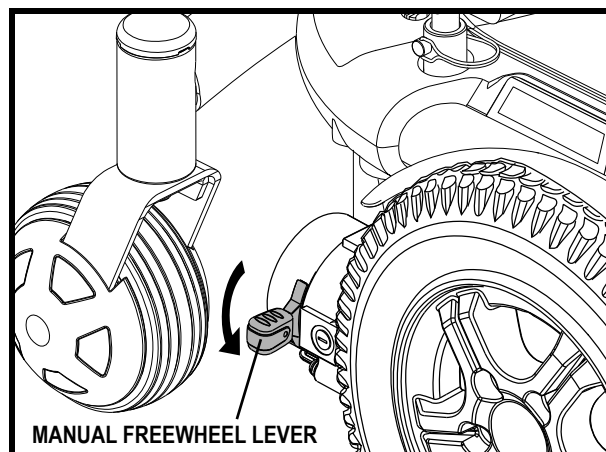

Figure 8B. Freewheel Mode (Drive Disengaged)
3. Push down both manual freewheel levers to disengage the motors (freewheel mode). See figures 8B and 9B.